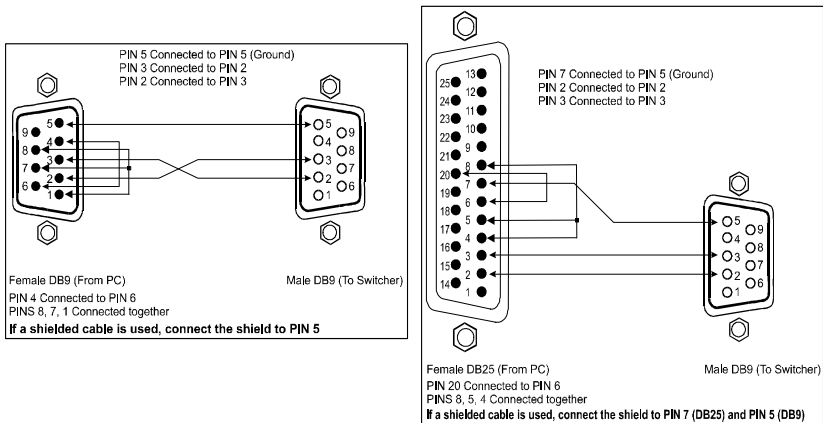

Figure 5: Connecting a PC without using a Null-modem Adapter
- Connect the RS-232 DB9 port on your PC to the RS-232 DB9 rear panel port on the **VS-66FW** unit, as Figure 5 illustrates (depending on whether the PC has a 9-pin or 25-pin connector)